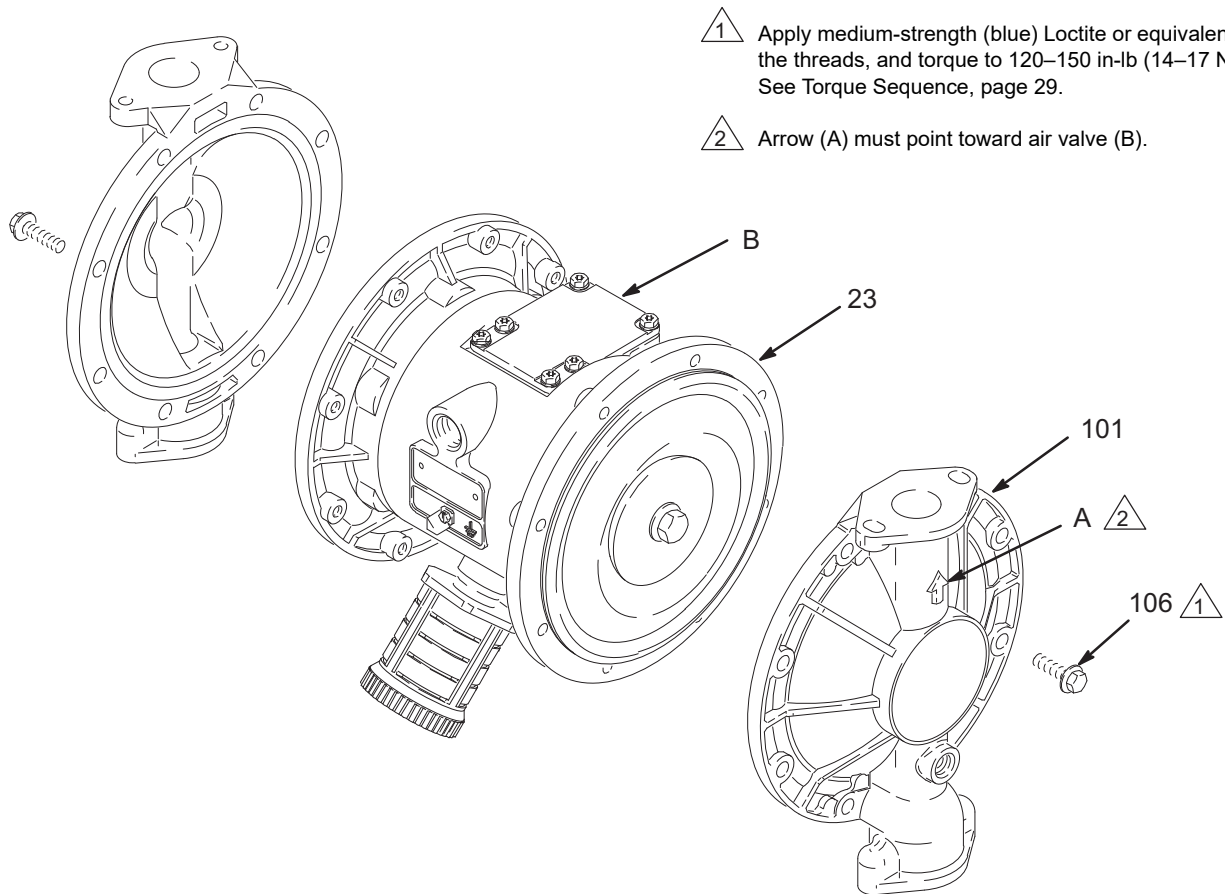

Fig. 13
3. Using a 10 mm socket wrench, remove the screws (106) holding the fluid covers (101) to the air covers (23). Pull the fluid covers (101) off the pump. See Fig. 13.
3. Grease the length and ends of the diaphragm shaft (24), and slide it through the housing (1).
5. Hold one shaft bolt (107) with a wrench and torque the other bolt to 20–25 ft-lb (27–34 N•m) at 100 rpm maximum.
6. Align the fluid covers (101) and the center housing (1) so the arrows (A) on the covers face the same direction as the air valve (B). Apply medium-strength (blue) Loctite® or equivalent to the threads of the screws (106). Secure the covers with the screws handtight. See Fig. 13. Using a 10 mm socket wrench, torque the screws oppositely and evenly to 120–150 in-lb (14–17 N•m). See **Torque Sequence**, page 29.